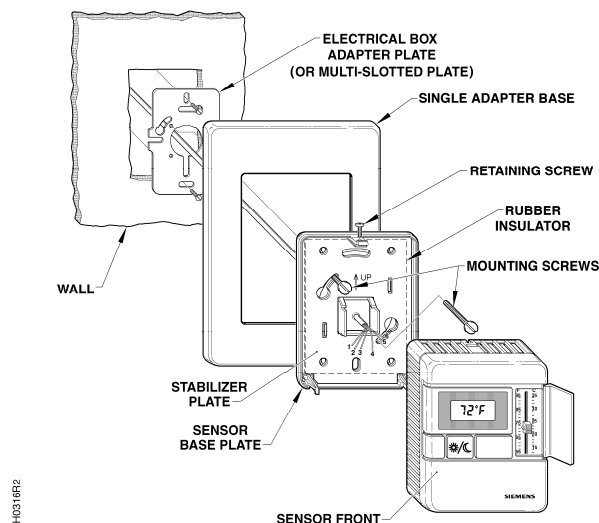

Figure 8. Electrical Box and Rough-in Mounting, Typical.
3. If you have a single-sensor electrical box, install the electrical box adapter plate. See Figure 8.
If you use a universal adapter kit for a retrofit job, install the multi-slotted plate in place of the electrical box adapter plate. See Figure 8.